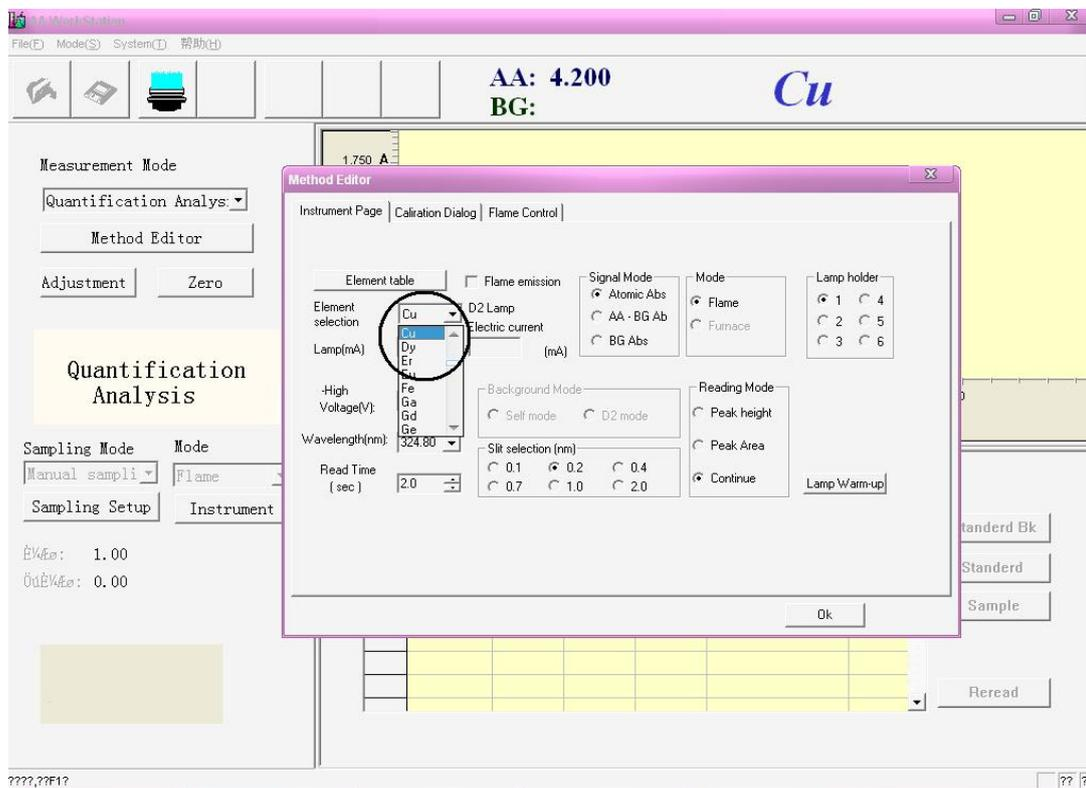

Figure 4-14
4. The other method is select one element on the "Element Selection" drop-down box and click on it (Figure 4-14), the element is checked